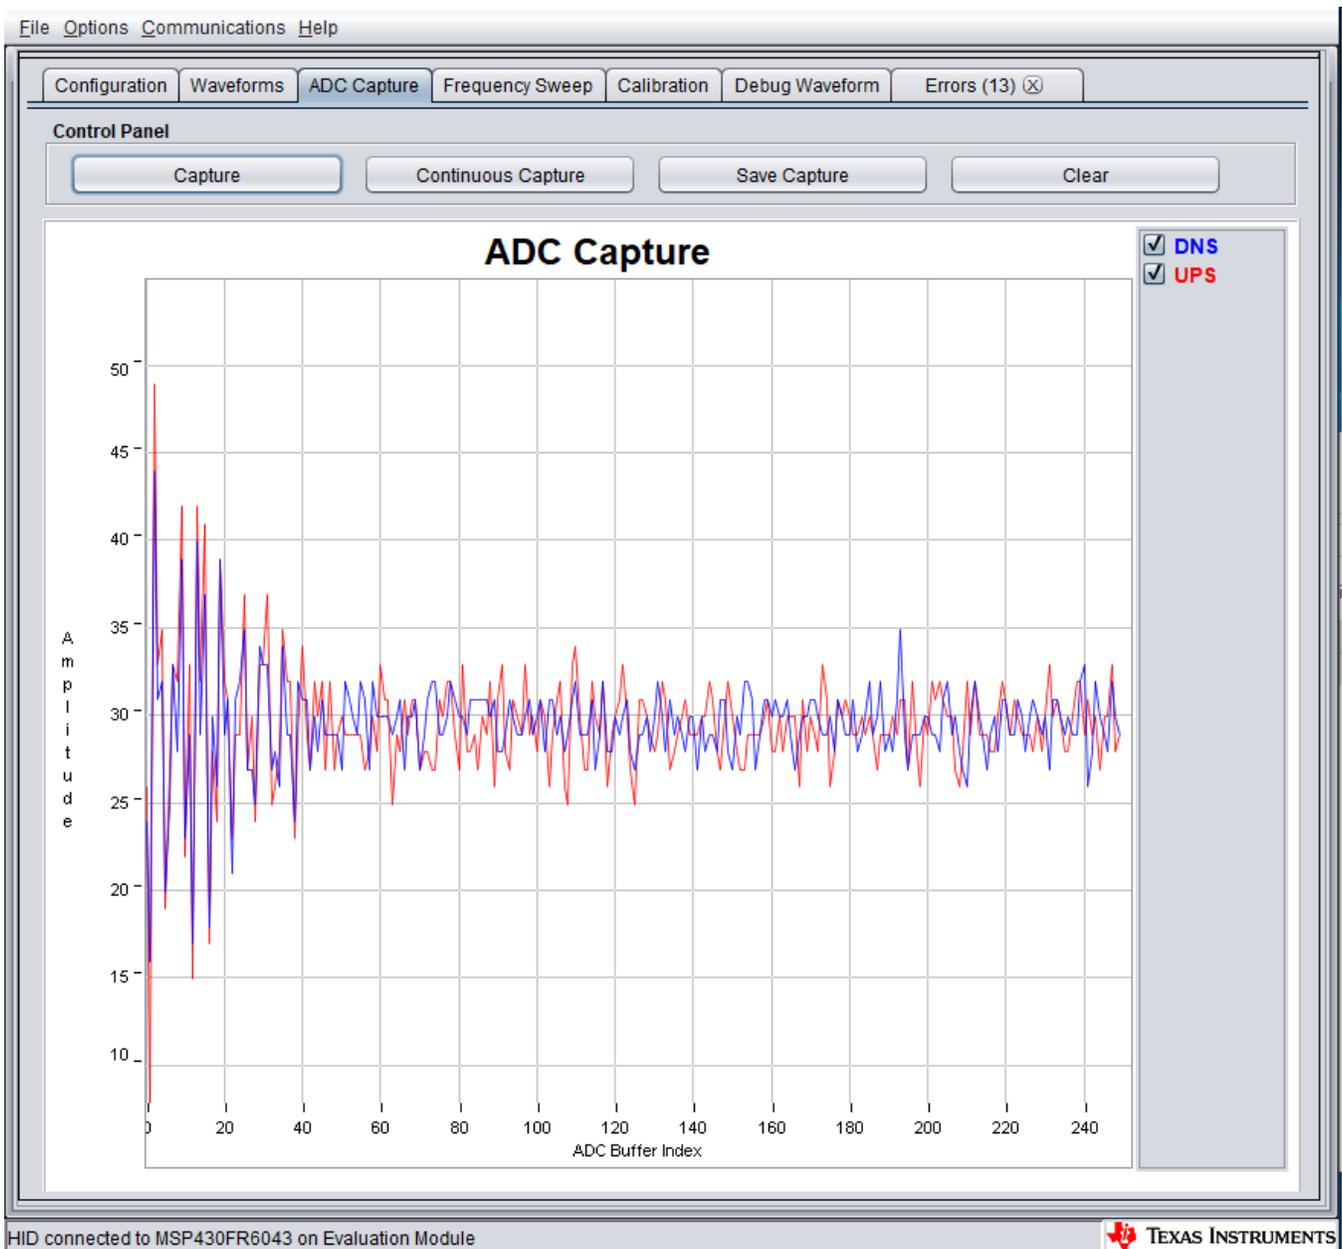

Figure 15. Captured ADC Signal With Bad Connection
- If the transducers are not connected properly to the EVM, the captured signal may look similar to Figure 15.